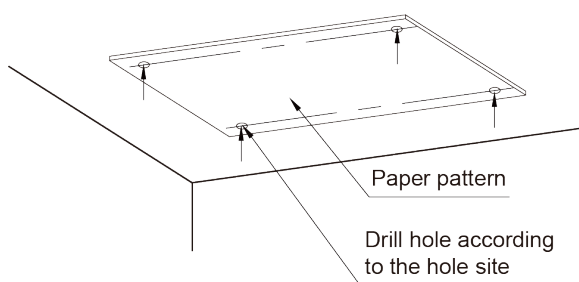
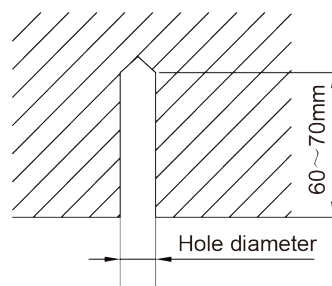

Fig.4.1.3
Fig.4.1.4
1) Stick the reference cardboard on the installation position. Drill 4 holes according to the hole site on the cardboard as shown in Fig.4.1.3. diameter of drilling hole is according to the diameter of expansion bolt and the depth is 60-70mm, as shown in Fig.4.1.4.